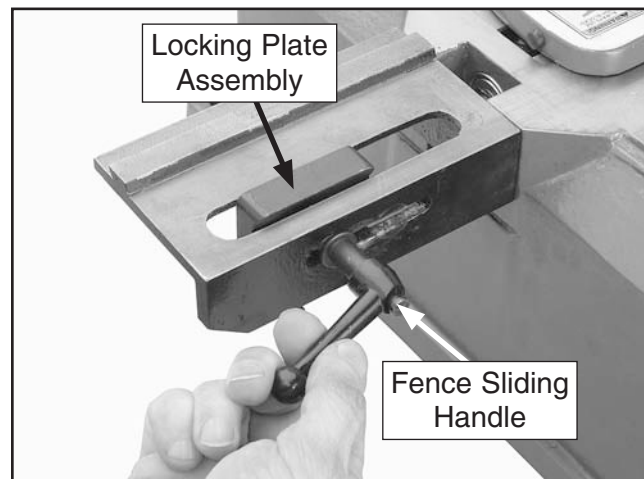

Figure 11. Securing the locking plate assembly with the fence sliding handle.
4. Attach the fence sliding handle to the locking plate assembly. Secure the locking plate in position by tightening the fence sliding handle, as shown in **Figure 11**.